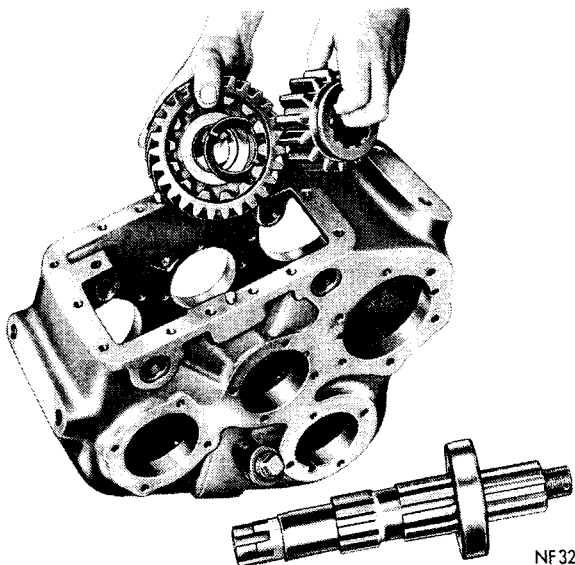

Fig. 7—Removing or Installing Sliding Gear, Drive Gear and Spacer
(3) Lift out sliding gear, drive gear and spacer (Fig. 7).
(4) Remove front bearing from shaft.